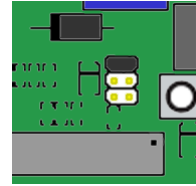

**Figure 6.** USB powered board logic
**JP2** - Board logic power supply jumper. A way of logic power supply is determined by this jumper. There are three different ways: directly from USB (as shown on Figure 6), from external +5V stabilized DC power supply (as shown on Figure 7), from external 7-12V unstabilized DC power supply (as shown on Figure 8).
In this case logic of 8SMC1-USBh board is powered by USB; stepper motor is powered by external 7-40V stabilized DC power supply. Connection diagram for Power In is shown on Figure 12, for multi-purpose 40 pin connector P1 on Figure 13. Correct position of board logic power supply jumper (JP2) is shown on Figure 6.